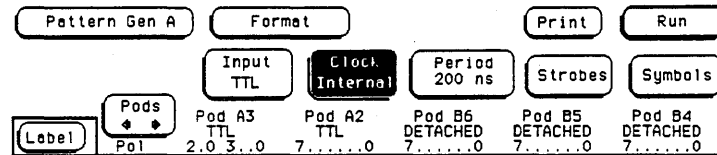

Figure 3-3. Clock Field
d. In the Format screen, touch **Clock** field and set to Internal as shown in figure 3-3.